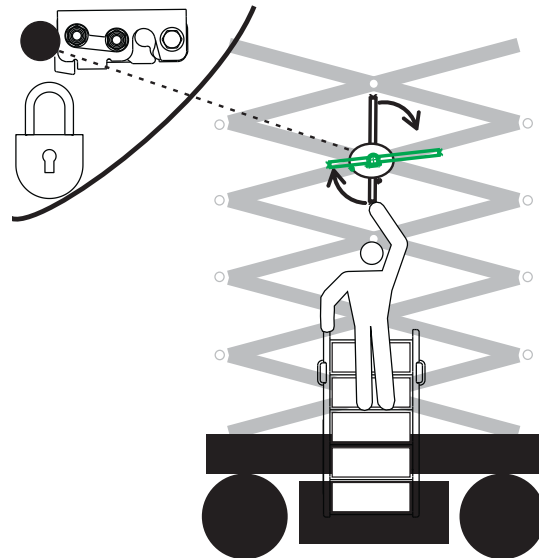

Figure 12 Position to release or retract the top maintenance support (only for model SJ9253 RT)
- a. Go up the MEWP ladder. Maintain three points of contact on the ladder at all times. Refer to Figure 12.
- a. Go up the MEWP ladder. Maintain three points of contact on the ladder at all times. Refer to *Figure 12*.